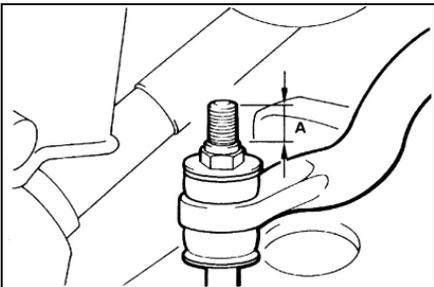

Fig.12-8
(1) **Stabilizer bar installation(see Fig.12-8)**